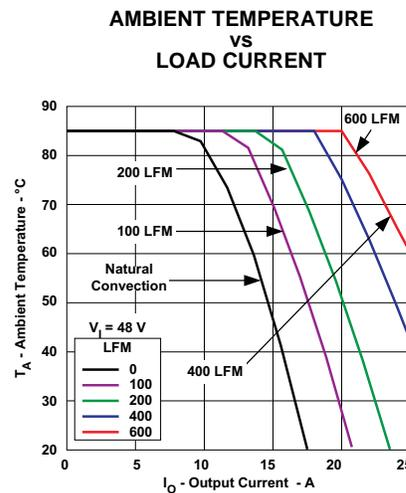

Figure 3.
- (2) The temperature derating curves represent operating conditions at which internal components are at or below manufacturer's maximum rated operating temperature. Derating limits apply to modules soldered directly to a 100–mm x 100–mm, double-sided PCB with 2 oz. copper. For surface mount packages, multiple vias (plated through holes) are required to add thermal paths around the power pins. Please refer to the mechanical specification for more information. Applies to Figure 3.